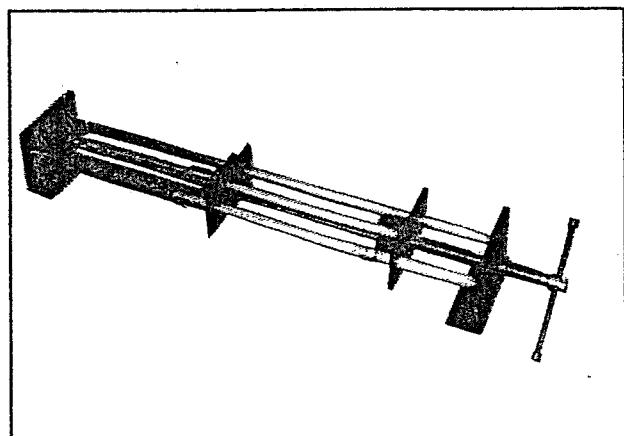

Fig 6.30
- Use the special tool to separate the inner tube from the outer tube (fig 6.30)